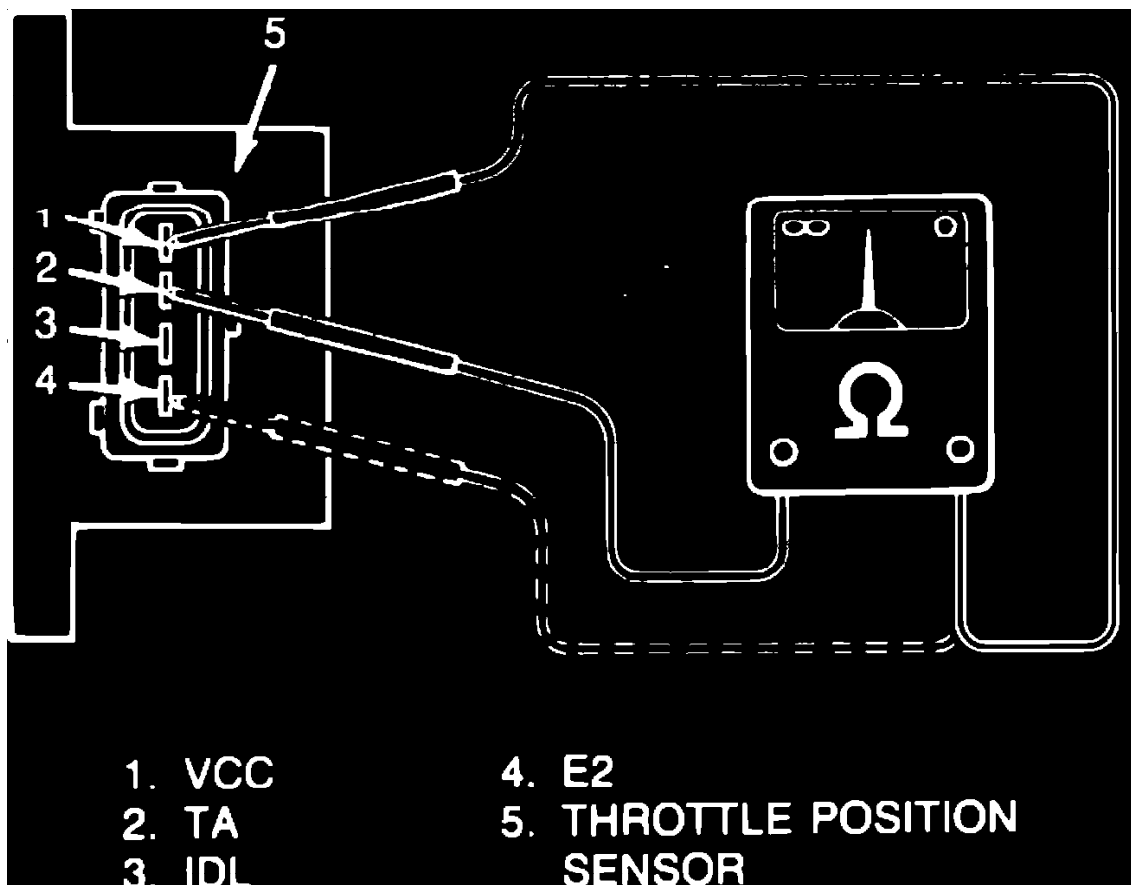

Fig. 11 Checking throttle position sensor (VCC-TA & TA-E2)
1. Check continuity between VCC-TA and TA-E2. Although a value is given, only a continuity check is necessary, Fig. 11.